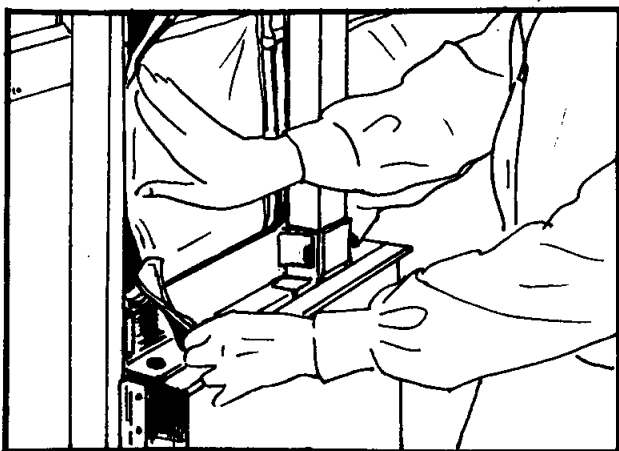

FIGURE 32
15. Step outside the trailer. Begin at the top of the doorframe and carefully pull the canvas weatherseal on either side of the doorframe from the weatherseal groove attached to the doorframe. Unfasten canvas velcro patches from door jamb and body rail. See Figure 32.